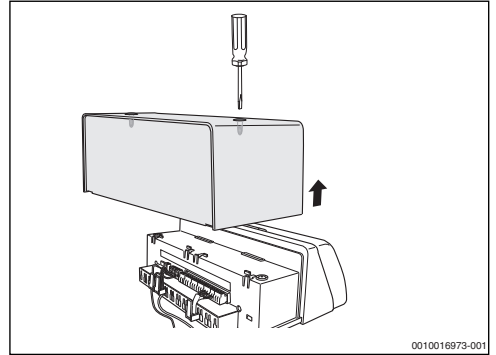

Fig. 15 Removing the cover hood
- ▶ Undo 2 screws on the cover hood (→ Fig. 15).